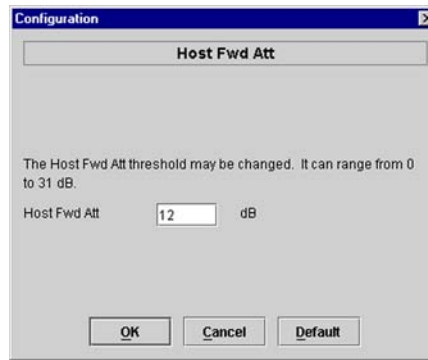

Figure 3-8. Host Fwd Att Pop-Up Screen
2. Click on the **Host Fwd Att Edit** button (see Figure 3-7). The **Host Fwd Att** pop-up screen will open as shown in Figure 3-8.